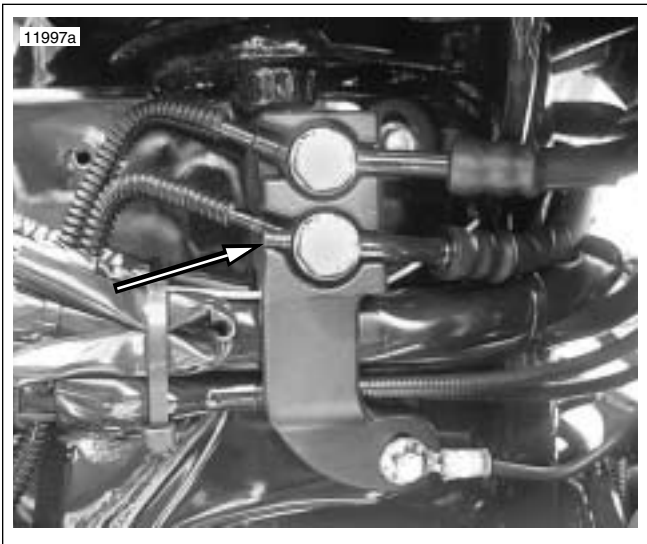

Figure 2. Incorrect Routing For Forward Brake Lines
2. See Figure 2. Routing is incorrect when the front calipers brake line, with nipple, is installed in the lower manifold port.